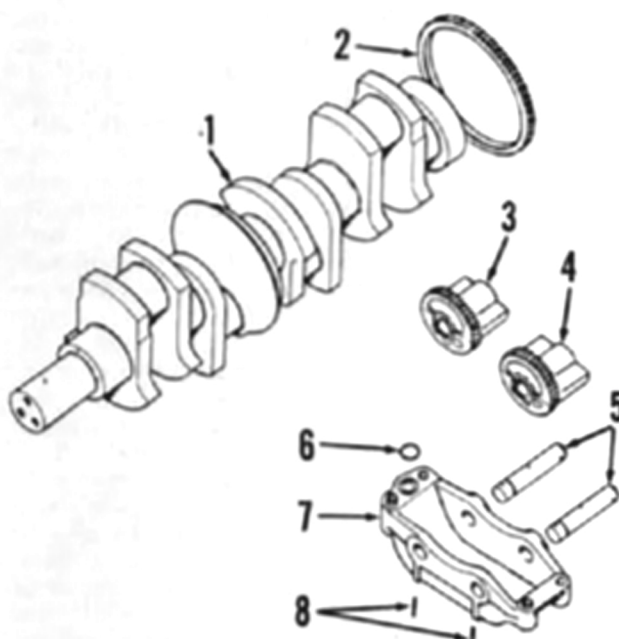

Fig. 43—Exploded view of engine balancer used on all models. Balancer drive gear (2) is a shrink fit on crankshaft.
48. D239, D246 and D268 engines are equipped with an engine balancer which is mounted on underside of engine crankcase. Balancers are driven by a renewable gear (2—Fig. 43) which is a shrink fit on crankshaft. The balancer consists of two unbalanced gear weights which rotate in opposite directions at twice crankshaft speed. They produce forces which tend to counteract the vibration which is inherent in four cylinder engines having a single plane
To disassemble the balancer unit, drive roll pins (8—Fig. 43) out of housing and into weight shafts (5). Press or bump shafts out roll pin side of housing (7) and lift out weight gear assemblies (3 and 4). Drive roll pins (8) out of shafts.
To install the balancer assembly, first rotate crankshaft to position No. 2 piston at TDC of compression stroke. Place new "O" ring (6 - Fig. 43) in recess on balancer. Then, with weights toward bottom of balancer housing and weight gear timing marks aligned, install balancer so that timing mark on drive weight is aligned with timing mark on balancer drive gear (2). Using a new "O" ring, install oil suction tube assembly. Using a dial indicator, check backlash between balancer drive weight gear (4) and balancer drive gear (2). Backlash should be 0.010-0.016 inch.
50. RENEW BALANCER DRIVE GEAR. To renew balancer drive gear (2 - Fig. 43), first remove crankshaft from engine. Remove worn or damaged drive gear by using a chisel and hammer and splitting the gear. Remove any burrs which might be present on gear mounting surface of crankshaft. Heat new gear to 360-390 degrees F., align the single mark (below tooth space of the drive gear) with the notch on the crankshaft flange and slide drive gear on crankshaft. The two marked teeth on drive gear should be toward flywheel end of crankshaft.